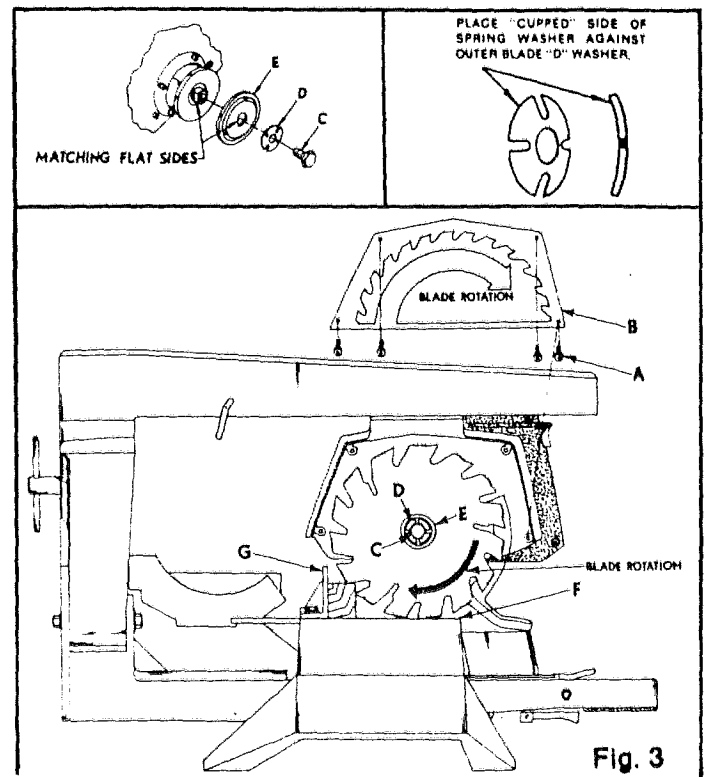
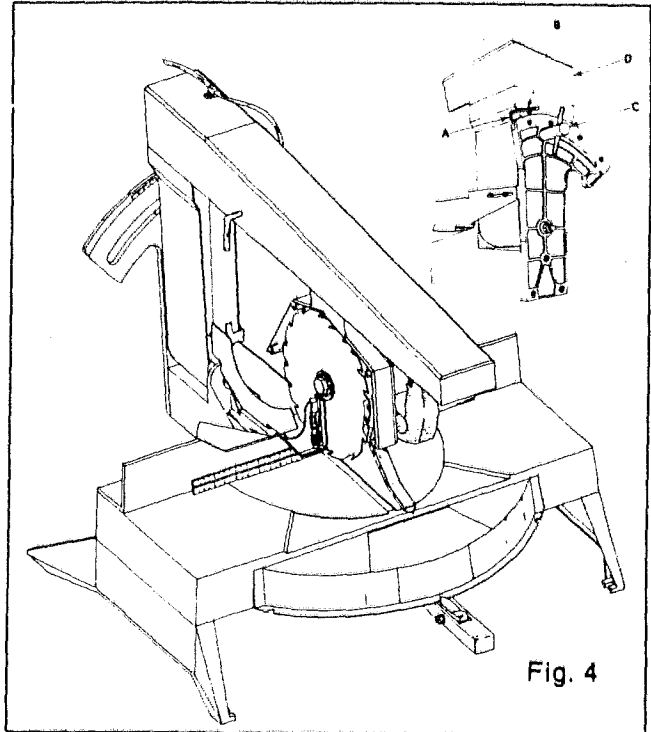

Fig. 3
Fig. 4
- Place saw head in the position shown in Fig. 3. Remove four screws (A) and blade cover (B).
- Remove blade screw (C), spring washer (D), and outer blade washer (E) from the spindle. **NOTE: THE BLADE SCREW HAS LEFT-HAND THREADS.**
- REPLACE THE OUTER BLADE WASHER MATCHING FLAT SIDE OF "D" HOLE OF WASHER WITH FLAT SIDE OF SPINDLE. SEE FIG. 3. REPLACE SPRING WASHER AND BLADE SCREW AND TIGHTEN FINGER TIGHT. NOTE: THE BLADE SCREW HAS LEFT-HAND THREADS. CAUTION: "D" HOLE IN THE OUTER BLADE WASHER MUST BE ALIGNED WITH AND ENGAGED ON THE FLAT SIDE OF THE SPINDLE TO PREVENT THE BLADE FROM COMING OFF THE SPINDLE.**
- With a soft wood block seated on the turntable (F) and in front of the fence (G), move the saw head until the blade teeth embed in the block and hold securely. With the wrench furnished, hand tighten the blade screw until no further tightening can be accomplished.
1. Place saw head in position shown in Fig. 4.
2. Place square firmly against table as shown and check blade squareness. If blade is square with table check pointer (A) for 0° setting, adjust pointer if needed by loosening screw (B), locate pointer on 0°, and tighten screw. If blade is not square with table proceed as follows:
3. Loosen lock screw (C) slightly in order to pivot saw arm (D).
6. Reassemble blade cover and four screws as shown in Fig. 3. It is not necessary to remove blade cover for any further checks or adjustments. **COVER SHOULD ALWAYS BE IN PLACE DURING SAW OPERATION.**
**CAUTION: BEFORE MAKING FURTHER CHECKS OR ADJUSTMENTS CONNECT MITER SAW TO POWER SUPPLY AND MOMENTARILY ENGAGE SWITCH TO CHECK FOR CORRECT DIRECTIONAL ROTATION OF BLADE. SEE FIG. 3. IF INCORRECT ROTATION IS DISCOVERED, DO NOT USE THIS SAW. RETURN IT TO YOUR NEAREST SEARS RETAIL STORE.**